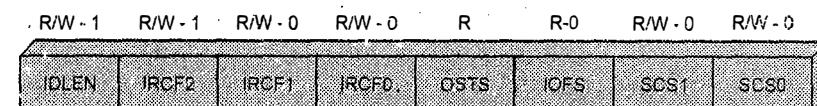

Fig. Q.15.1 : Oscillator control register
- The OSCCON register controls several aspects of the device clock's operation, both in full-power operation and in power-managed modes. The system clock select bits, SCS1:SCS0, select the clock source. The oscillator control register is shown in Fig. Q.15.1.